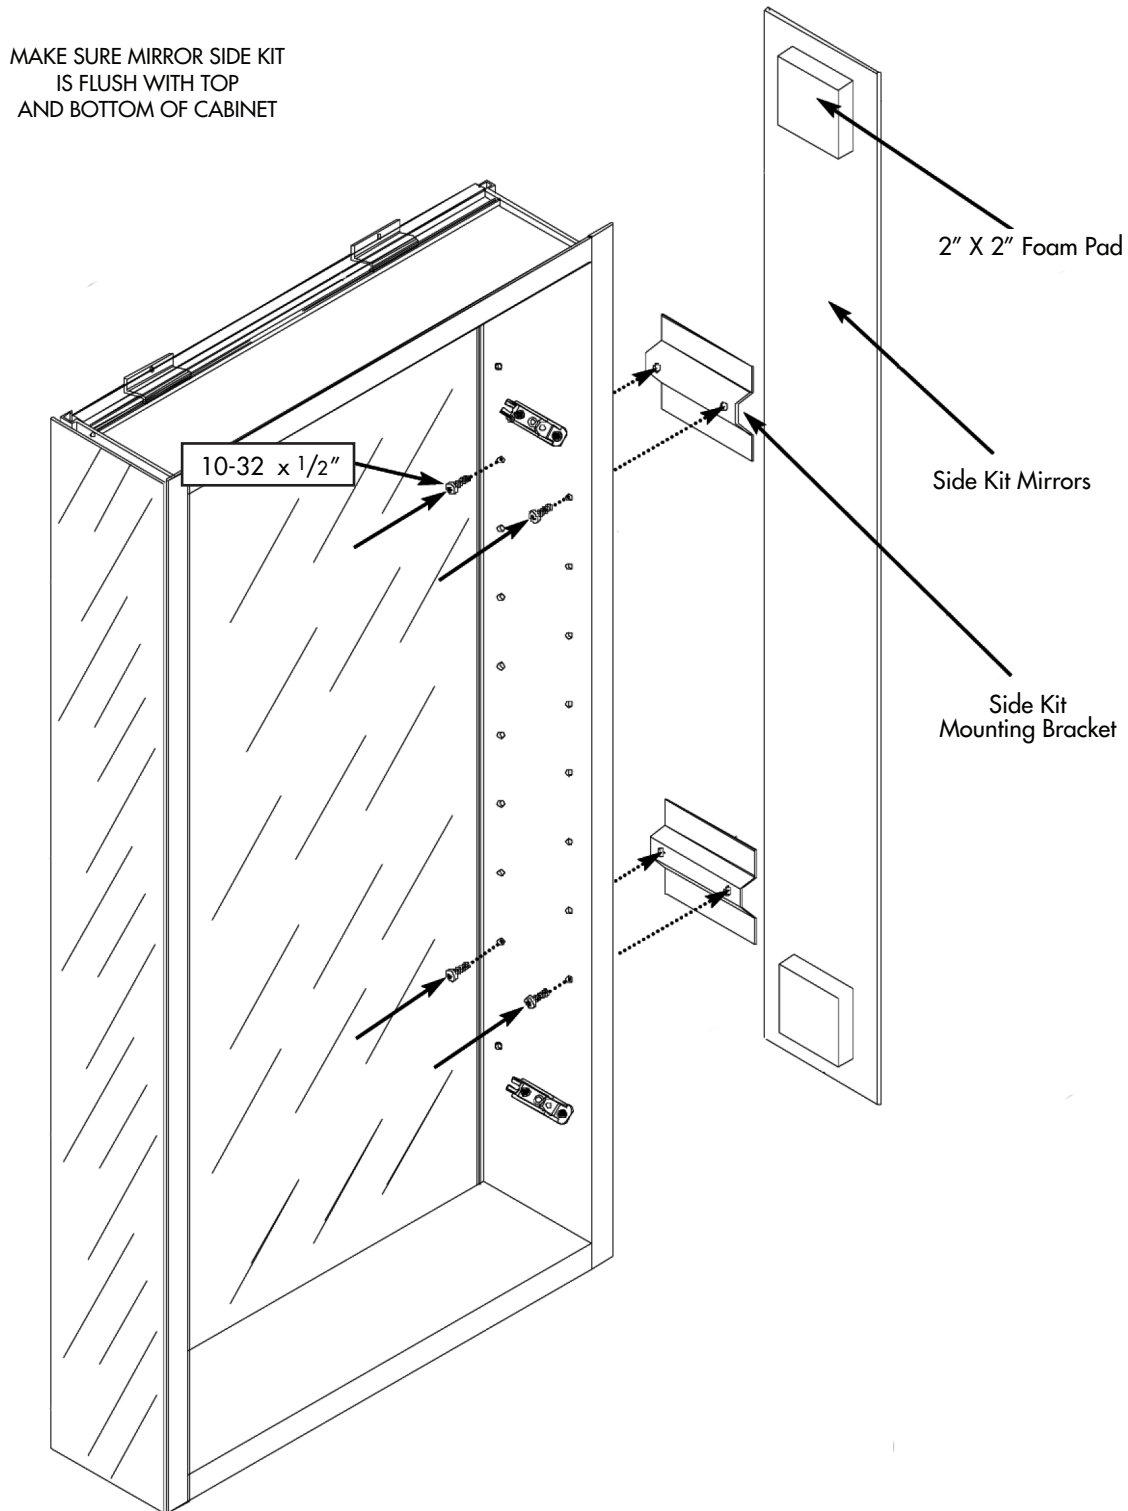

FIG 16
10. Using #10-32 x 1/2" machine screws, attach side kit mounting brackets (Fig 16)
12. Place 2" x 2" foam pads 1" from each end of mirror strip (Fig 16).
13. Peel tape off brackets and place mirrored side kit as shown (Fig 16). Mirror should be even with front of cabinet flange and flush with the top and bottom of the cabinet. Repeat for opposite side.